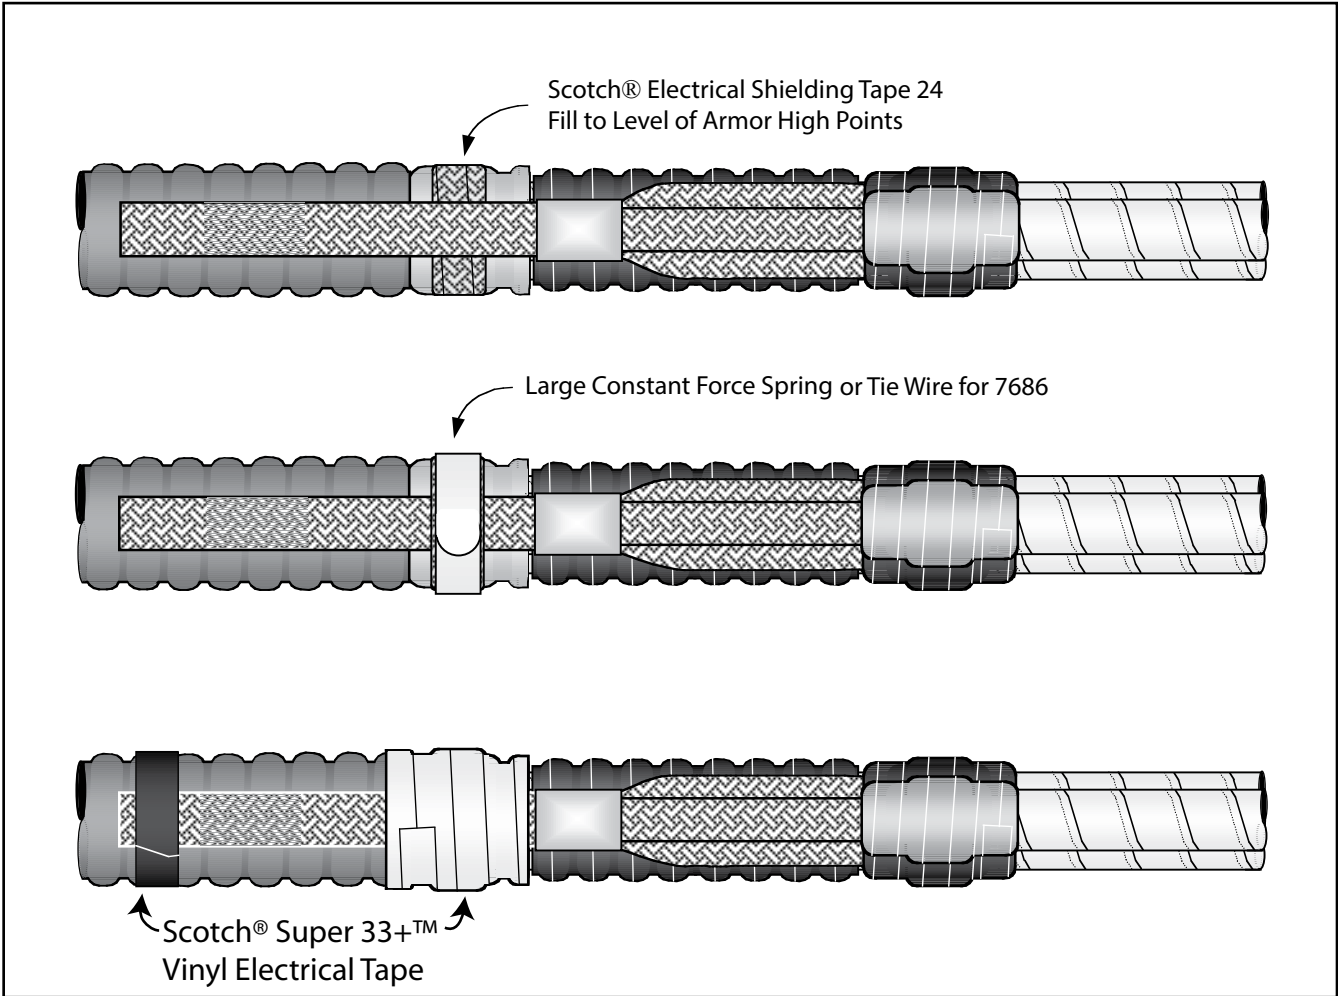

Figure 4
- 2.5 Fill one armor valley section with tightly-wrapped layers of Scotch® Electrical Shielding Tape 24 (Figure 4).
- 2.6 Secure ground braid assembly to cable armor using large constant force spring (Figure 4). Once spring has been applied, cinch (twist with hand) to tighten.
- 2.7 Apply one half-lapped layer of electrical grade vinyl tape over large constant force spring and cable armor (Figure 4). **Note: Apply Scotch® Super 33+™ Vinyl Electrical Tape to hold down ground strap (Figure 4).**